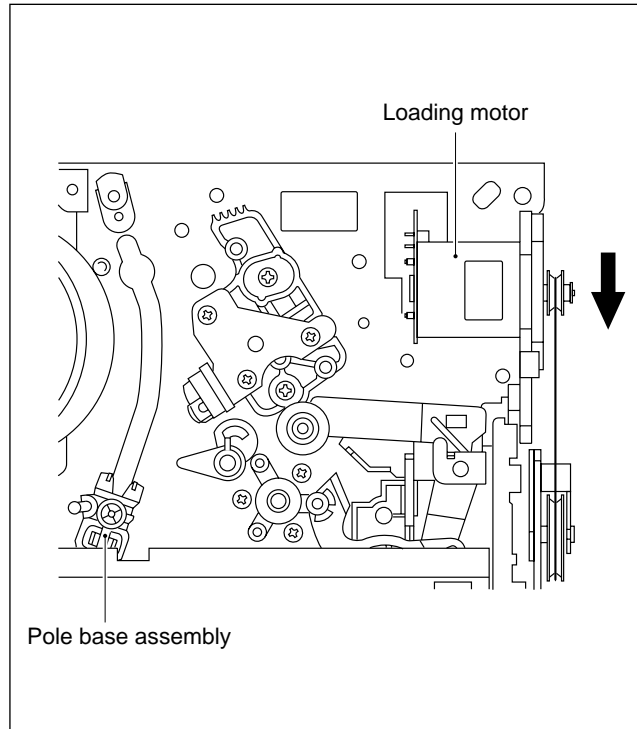
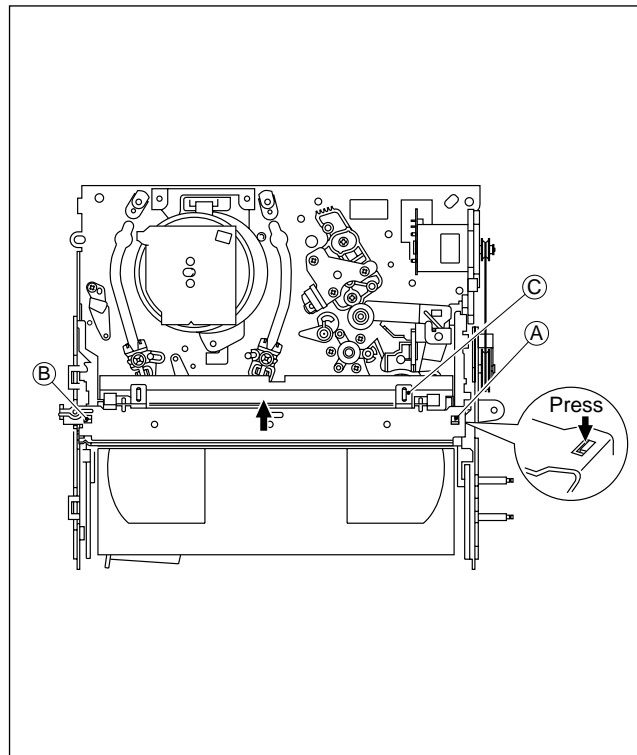

Fig. 2-1-3a
Fig. 2-1-3b
- (1) Unplug the power cable and remove the top cover, bracket and front panel assembly. (See 1.3 DISASSEMBLY/ASSEMBLY METHOD.)
- (2) Unload the cassette by manually turning the loading motor of the mechanism assembly toward the front. In doing so, hold the tape by the hand to keep the slack away from any grease. (See Fig.2-1-3a.)
- (3) Bring the pole base assembly (supply or take-up side) to a pause when it reaches the position where it is hidden behind the cassette tape.
- (4) Move the top guide toward the drum while holding down the lug **A** of the bracket retaining the top guide. Likewise hold part **B** down and remove the top guide. Section **C** of the top guide is then brought under the cassette lid. Then remove the top guide by pressing the whole cassette tape down. (See Fig.2-1-3b.)
- (5) Remove the cassette tape by holding both the slackened tape and the cassette lid.
- (6) Take up the slack of the tape into the cassette. This completes removal of the cassette tape.